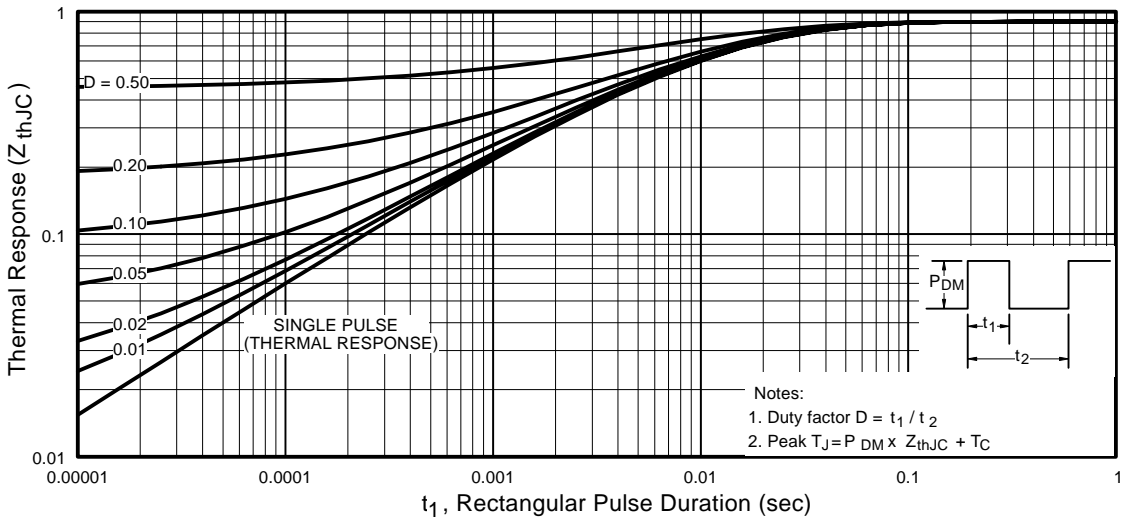

Fig 11. Maximum Effective Transient Thermal Impedance, Junction-to-Case
- ① Repetitive rating; pulse width limited by max. junction temperature. (See fig. 11)
- ② Starting T_J = 25°C, L = 194μH